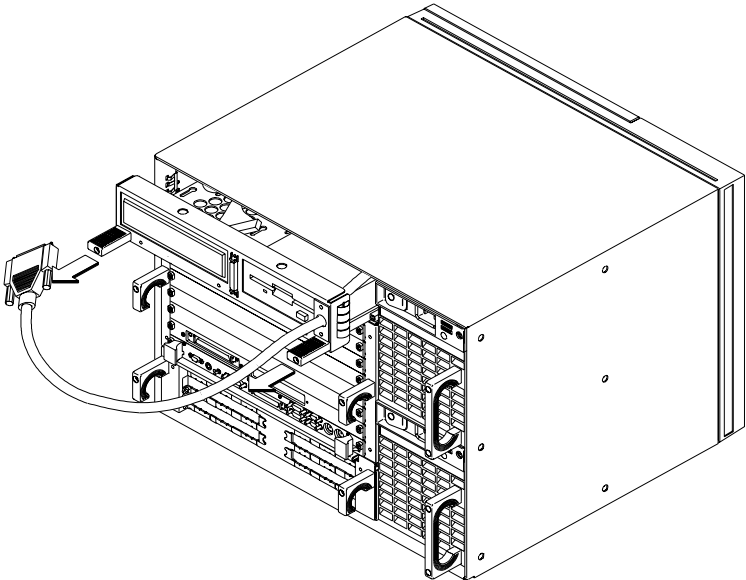

Figure 5-6
- 3 Slide out tray. See Figure 5-6.